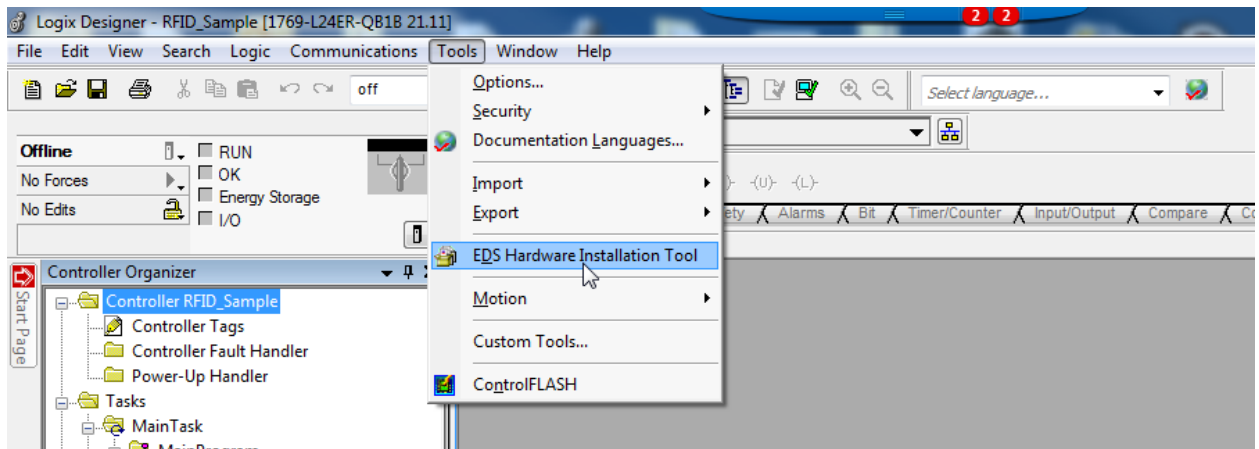

Figure 6: Install EDS file
Step 1: Import the EDS file into your project. See Figure 6.